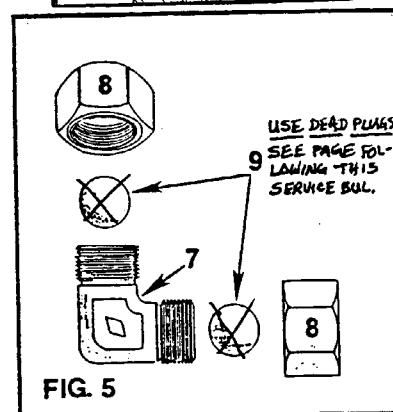
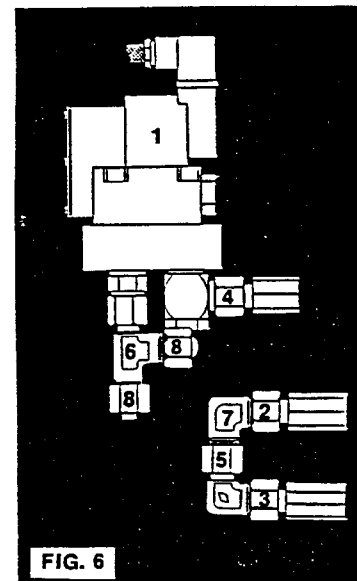

FIG. 5
FIG. 6
which may be purchased from our spare parts department by ordering 2 of part no. ~~305238 (ball bearings)~~, and 1 of part no. 994.181.020.000-8 (K-WV 16 S fitting). (See figure 5) Again, these must be on hand before a breakdown if you are to bypass this valve on the job.
3. Insert the elbow (fig. 5, item 7), between elbow no. 5 and hose no. 2. (See figure 6)
4. Install the ~~ball bearings~~ ^{dead plugs} and capnuts on the "T" fitting (Item 6), as shown in figure 6.